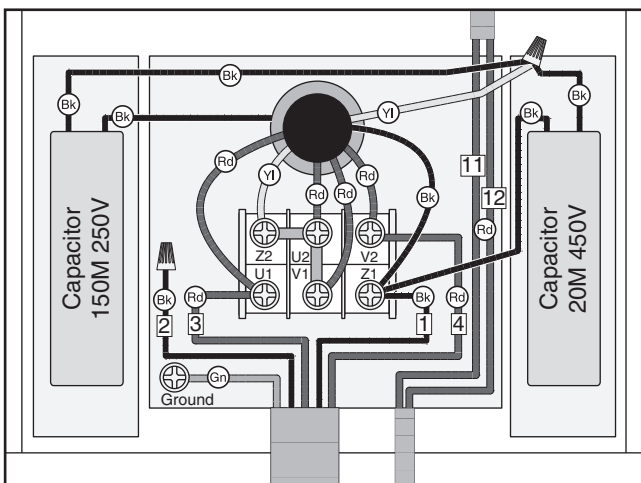

Figure 3. Motor configured for 220V operation.
2. Re-configure the two metal terminal jumpers so that terminals **Z2** and **U2** are connected and **U2** and **V1** are connected, as shown in **Figure 3**.
3. Remove the wire from the **Z2** terminal and terminate it with a wire cap and electrical tape (see **Figure 3**), then re-install the wiring junction box cover.